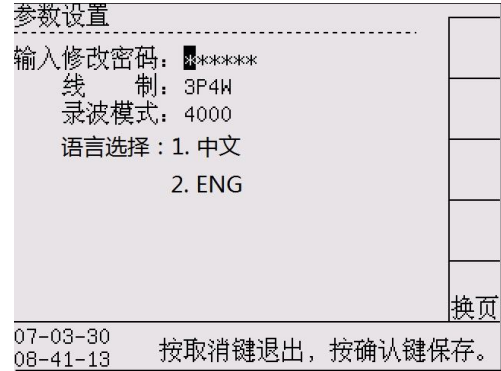

Figure 13-3 Parameter setup –2
4. Parameter setup (Figure 13-3)